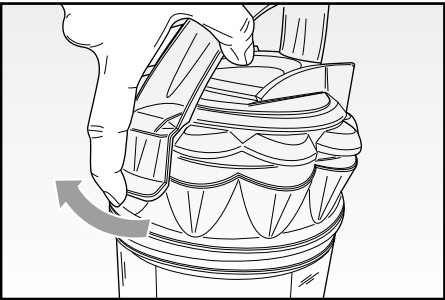
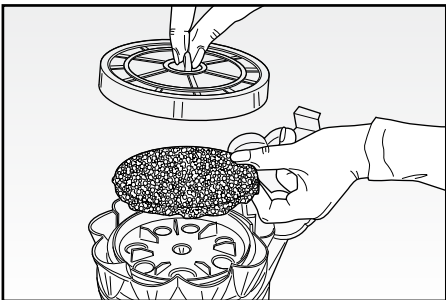

Fig. 8
Fig. 9
- To clean the container (A) fully, it is necessary to disassemble it completely, as described here below:
- open the filter lid by means of the apposite lever (Fig. 8) and then extract the filter beneath and the sponge filter (Fig. 9).